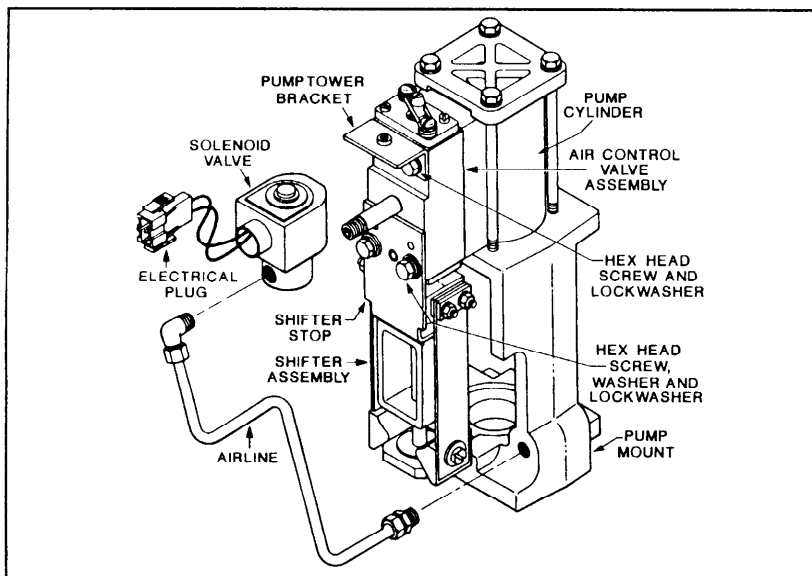

Figure 7.8
To replace the bottom poppet seat or to replace the entire valve assembly, perform the following steps and refer to Figures 7.8, 7.9, and 7.10.
5. Disconnect one end of the air line running between the solenoid valve and the base of the pump mount (see Figure 7.8).
6. (Figure 7.2, part 1 of 2; also Figure 7.8) Remove the four hex head screws, the two washers and four lock-washers that secure the air control valve to the air cylinder of the pump. The pump tower bracket, the shifter stop and the valve gaskets will also come off at this time.
13. With the two gaskets, the pump tower bracket, and the shifter stop in place, attach the air control valve assembly/shifter assembly to the air cylinder with four hex head screws, four lockwasher and two washers (see Figure 7.2, part 1 of 2; also Figure 7.8). Torque the screw 100-120 in.-lbs (11-14 N-m).